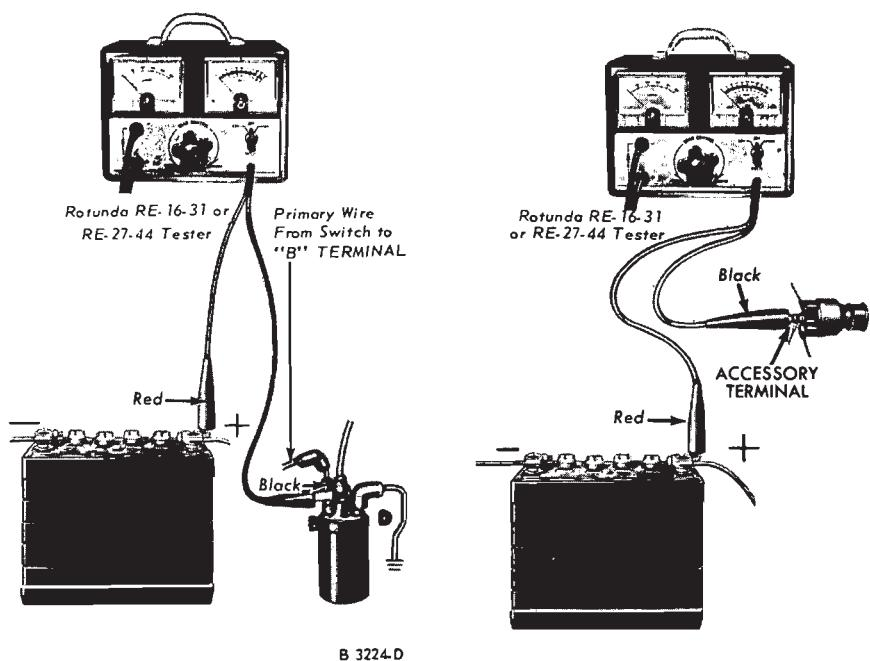

FIG. 3—Battery-To-Coil and Starting Ignition Circuit Test
1. Connect the voltmeter leads as shown in Fig. 3.